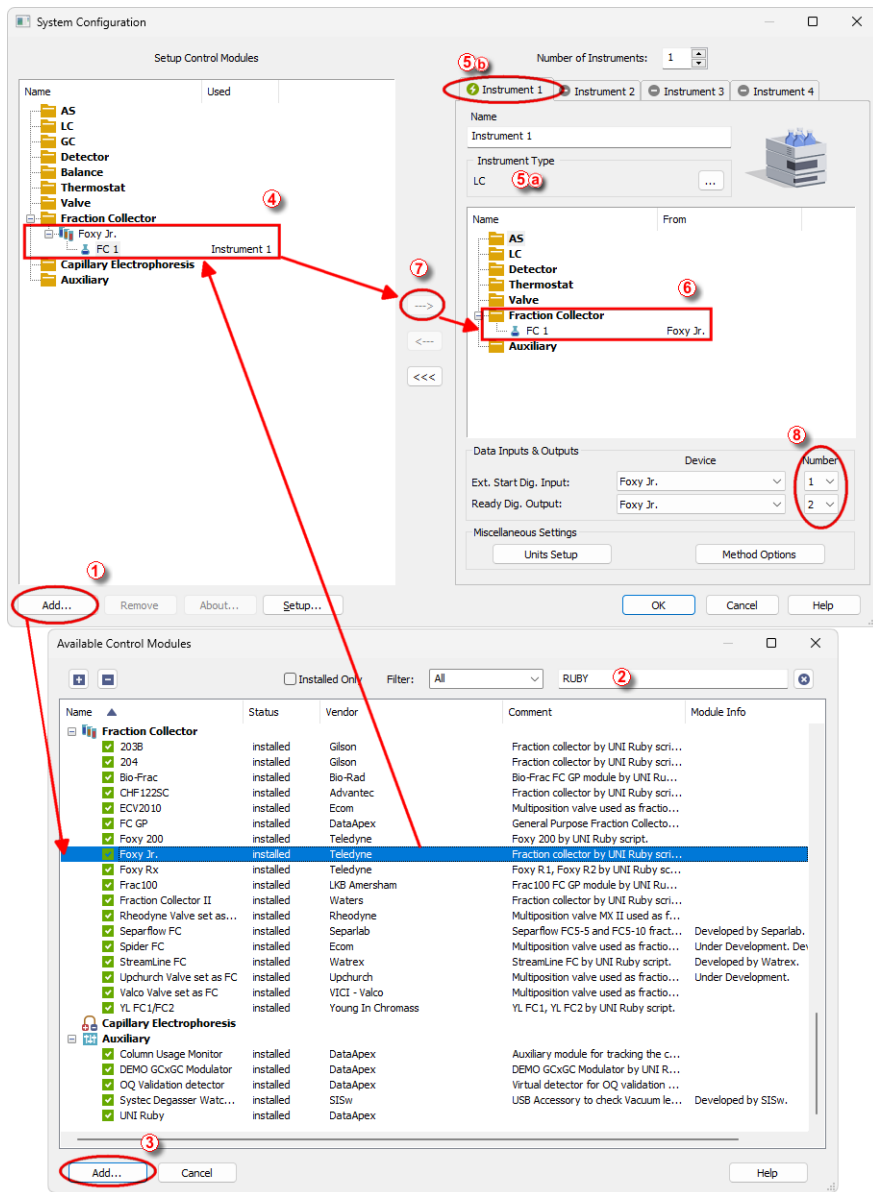

Fig. 3: How to add Teledyne Foxy Jr
- Press the *Add* button (① on **Fig. 3** on pg. 4.) to invoke the *Available Control Modules* dialog.
- You can specify the search filter (②) to simplify the finding of the driver.
- Select the correct item and press the *Add* (③ on **Fig. 3** on pg. 4.) button. Each device with already created UNI profile should have its own item named accordingly in the *Available Control Modules* dialog.